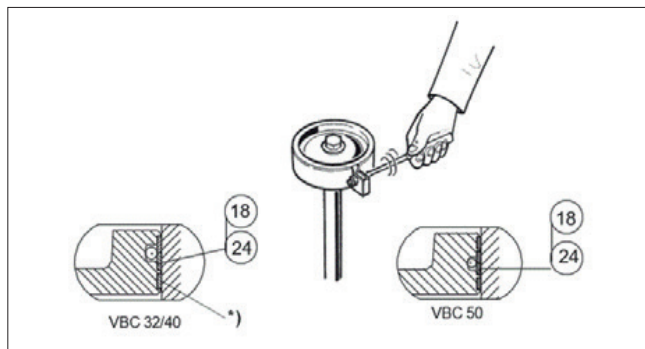

Fig. 6 Tightening piston seals with a tie ring
- Apply VCI-369 to O-ring groove and each pressure surface of the piston (9).
- Use tie ring to assemble the piston ring (24) to prefabricated piston (9) and piston rod (10) set. Refer to Fig. 6.
- Lubricate seal space (inner surface of the bearing (2)) and new O-rings with Unisilikon L250L or equal silicone grease.
- Put the bearing (2) and new O-rings (16) into cylinder base (6).
- Mount the cylinder pipe (8) to cylinder base (6).
- Fasten the VB 32 screw (31) or VB 40/50 stud (31) and hexagon nut (45) on cylinder base (6).
- Put the prefabricated piston set into the cylinder pipe (8) and cylinder base (6).
- Make sure that piston rod (10) is not scratched.
- Mount the cylinder end (44) to the cylinder pipe (8).
- Fasten the VB 32 screw (31) or VB 40/50 stud (31) and hexagon nut (45) on cylinder end (44).